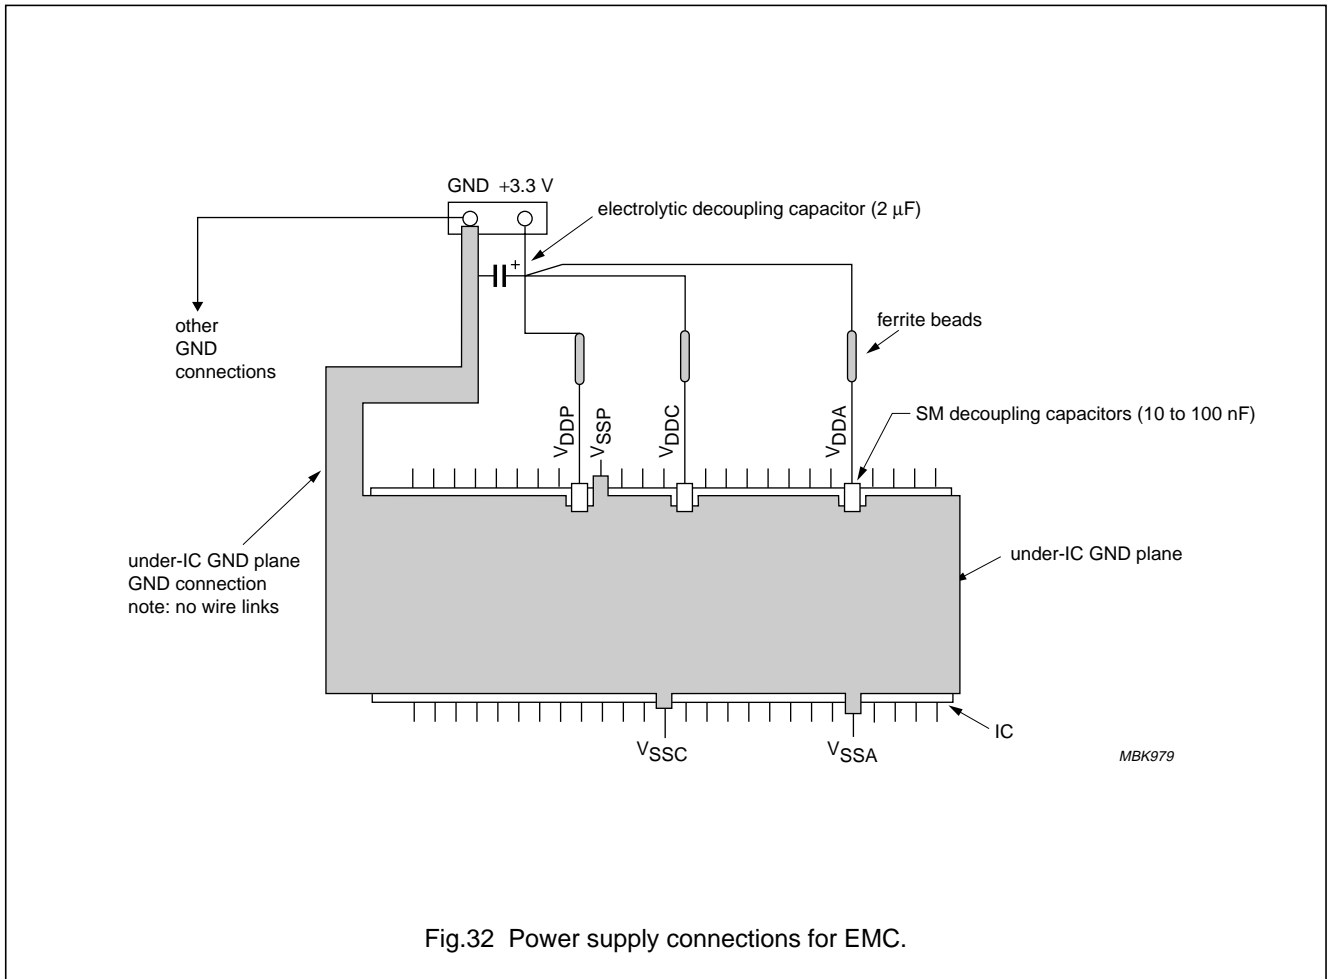

Fig.32 Power supply connections for EMC.
On a single-sided PCB a local ground plane under the whole Integrated Circuit (IC) should be present as shown in Fig.32. This should be connected by the widest possible connection back to the PCB ground connection, and bulk electrolytic decoupling capacitor. It should preferably not connect to other grounds on the way, and no wire links should be present in this connect. The use of wire links increases ground bounce by introducing inductance into the ground.